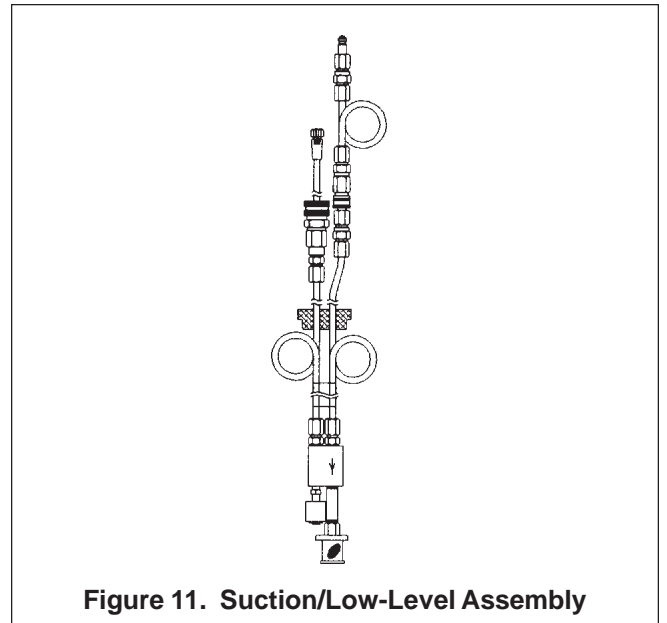

Figure 11. Suction/Low-Level Assembly
- Combination Suction/Low-Level Assembly (Shown in Figure 11)